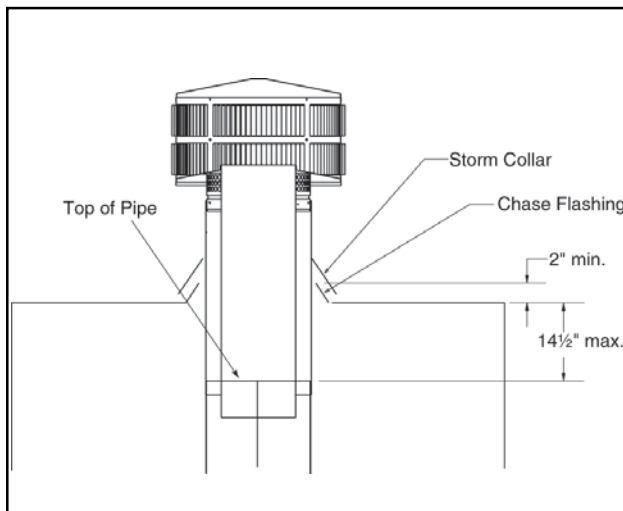

Figure 15 - Installing a TR11T Round Telescoping Termination Cap
- For installations utilizing a TR11T telescoping round termination cap, the uppermost chimney section must be below the top of the chase top, but not more than 14½" below the top of the chase top flashing collar. See Figure 15.